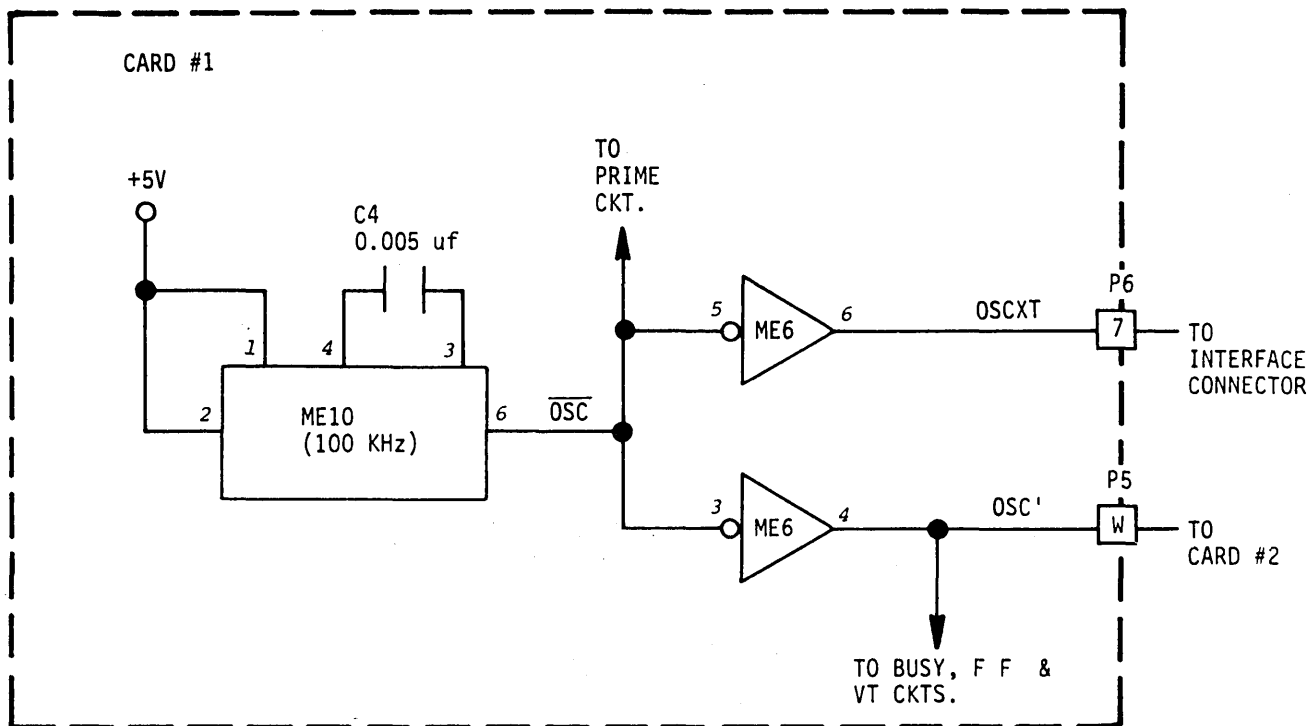

Figure 4-3. BASIC TIMING CIRCUIT
4.2 BASIC TIMING (SEE FIGURE 4-3)